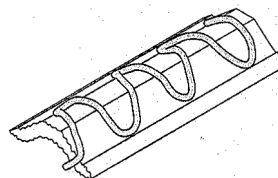

Fig. 29: S-pattern bead on the cove trim
4. **Apply the silicone.** Apply a 1/8" to 1/4" bead of 100% clear silicone sealant to the back of the cove trim in an S pattern (Fig. 29).